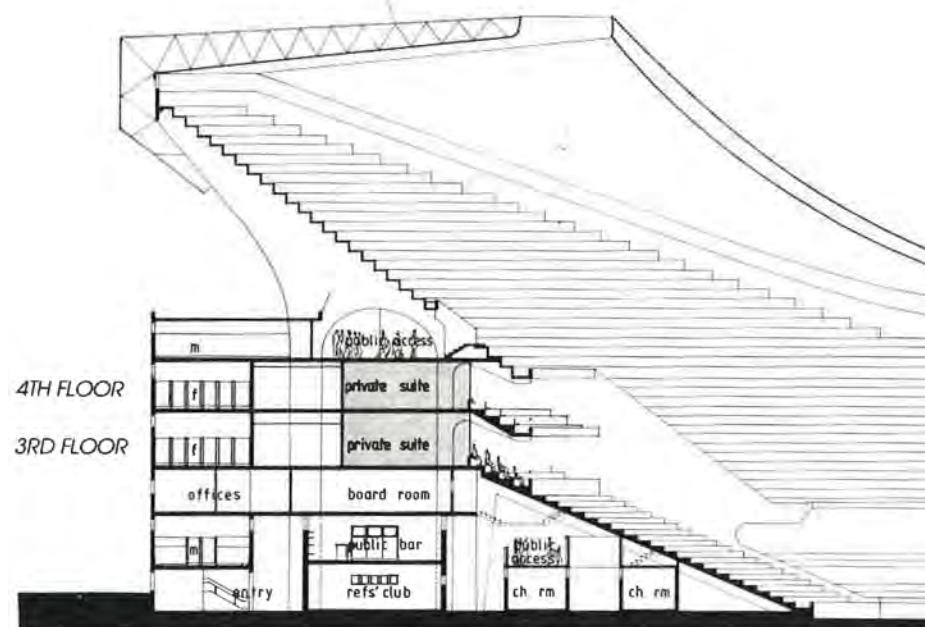

fig. 3 CROSS SECTION OF GRANDSTAND
**5th floor** – Spectator access to upper terrace and attendant amenities (Refer fig. 3).